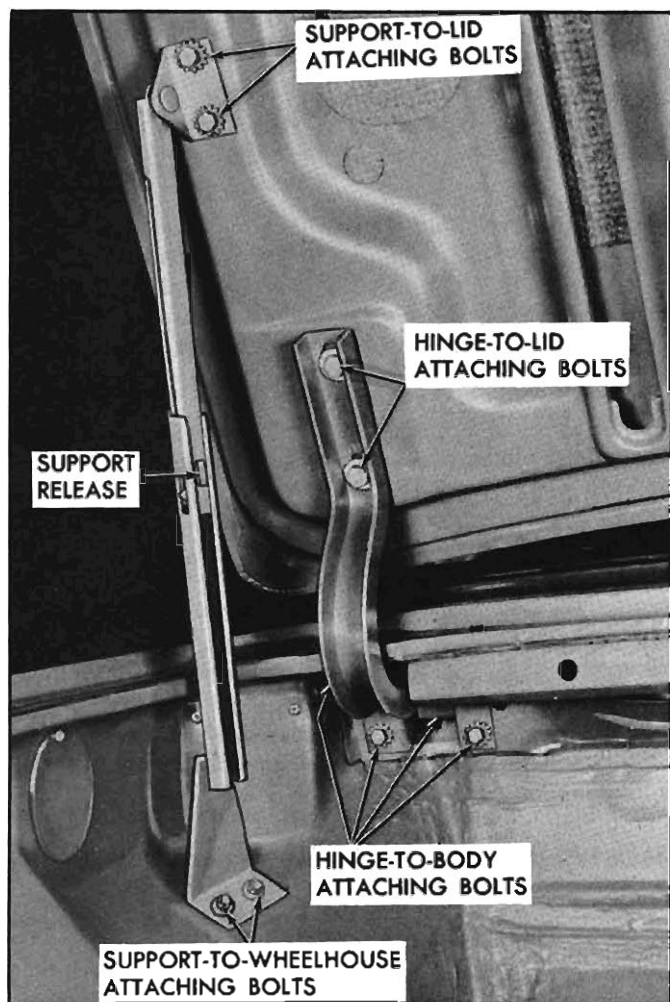

Fig. 18—Engine Compartment Lid Hinge and Support
1. To adjust the engine compartment lid forward, rearward or sideways in the body opening, loosen hinge strap-to-lid attaching bolts (fig. 18) and shift lid to required position, then tighten bolts.
2. To adjust the front of the lid up or down or to adjust the lid sideways, loosen hinge-to-body attaching bolts (fig. 18), then shift lid to required position and tighten bolts.
3. Remove hinge strap to lid attaching bolts and hinge to body attaching bolts (fig. 18) and remove hinge from body.